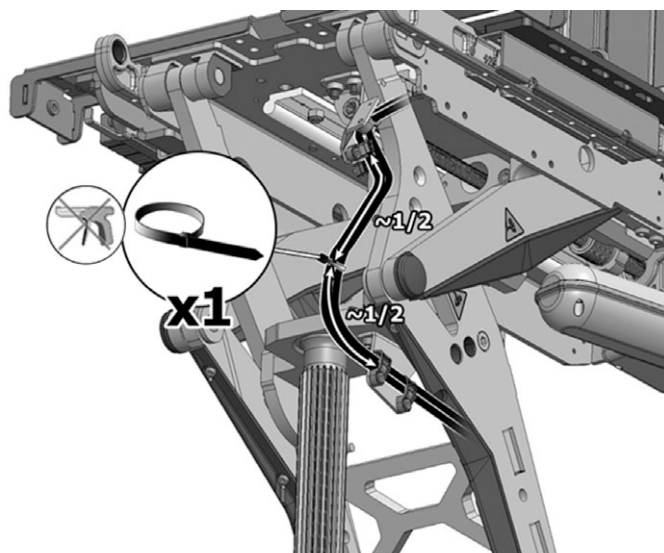

Figure 145. The Rnet- and ICS bus cables are tied together with a cable tie in the middle of the cable loop.
9. The bus cables are tied together with a cable tie in the middle of the cable loop. See fig. 145.